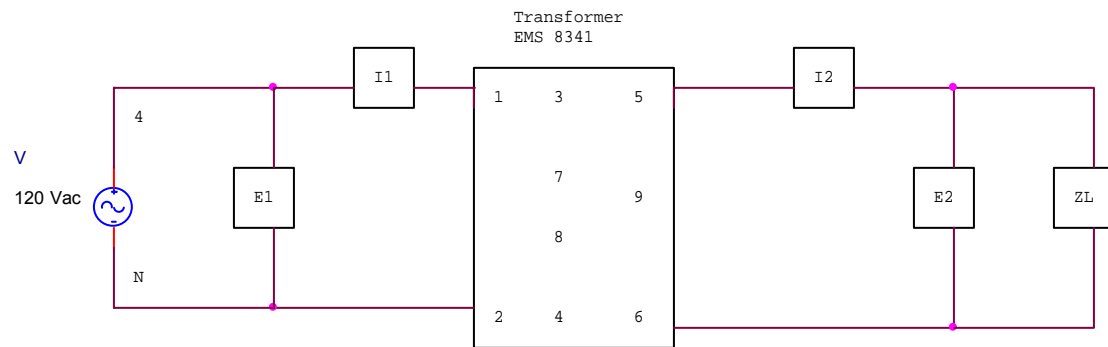

Figure 2 Single Phase Transformer Circuit for part one.
4. Construct the circuit of Figure 2. use the first impedance listed in Table 2 (open circuit). The symbols I_1 , I_2 , E_1 and E_2 refer to the DAI metering connections.